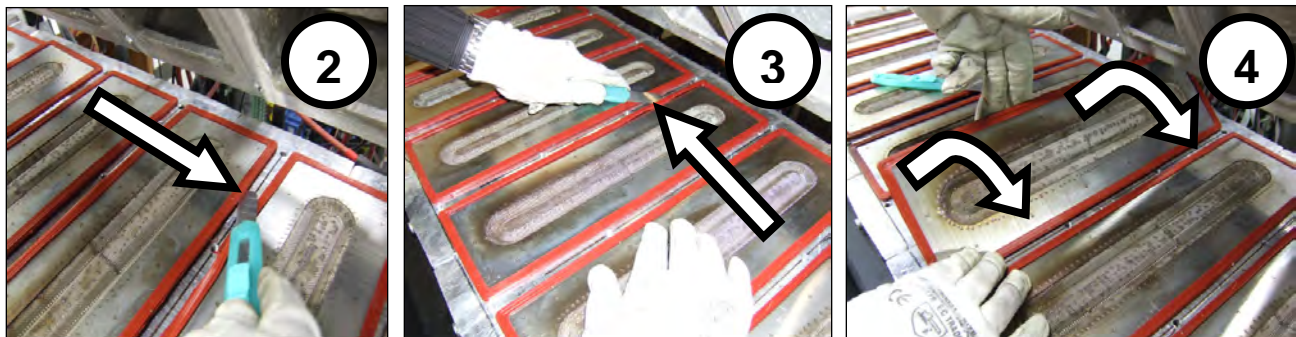

Figure 14: Cutting the Gasket (1-3) and Removing a Burner Module (4)
2. Remove each burner module from its seat by inserting a cutter between the gasket and the aluminum body on which it rests, and then carefully running the cutter down three sides of the burner. The photos in **Figure 14** show the (1) cutter being run along the shorter front edge, (2) along right long edge, and (3) along left long edge.
3. Next, remove the burner by carefully rotating it upward **ONLY** along the left or right long edge axis (#4 in **Figure 14**). Take care to avoid deforming the burner module as it is removed.